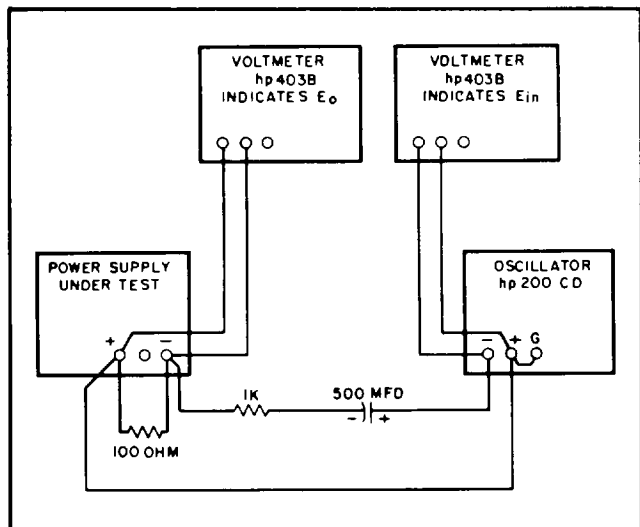

Figure 5-10. Output Impedance, Test Setup
- Connect test setup shown in Figure 5-10.